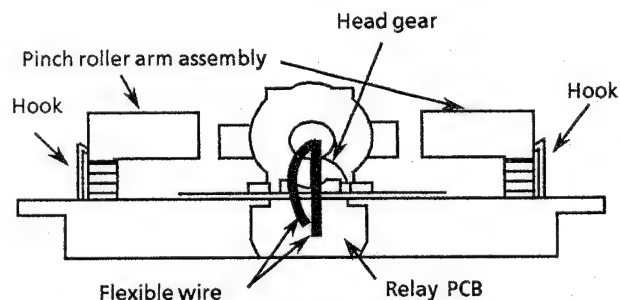

Fig. 13 Bottom view of the cassette mechanism
2. Unsolder the flexible wire on the relay circuit board, and remove the 2 screws ⑤ fixing the head assembly (Fig. 13,14).
2. Remove the hooks fixing the pinch roller arm assembly to remove the pinch roller arm assembly (Fig. 13).